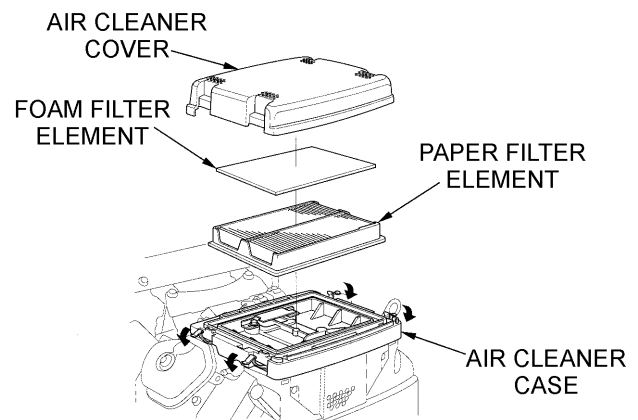

Figure 13. Air Cleaner Components
1. Release the four latch tabs (Figure 13) from the air cleaner cover, and remove the cover.